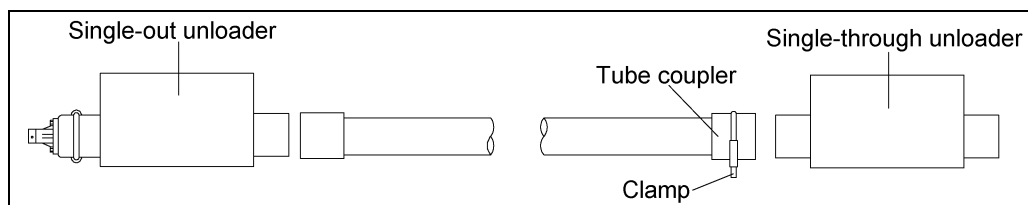

Figure 5I Tandem System Installation
4. Slip the appropriate tube coupler over the cut end of the straight tube. Position the straight tube in its operating location. Slide and clamp the tube coupler over the straight-through unloader inlet. (See Figure 5I.)